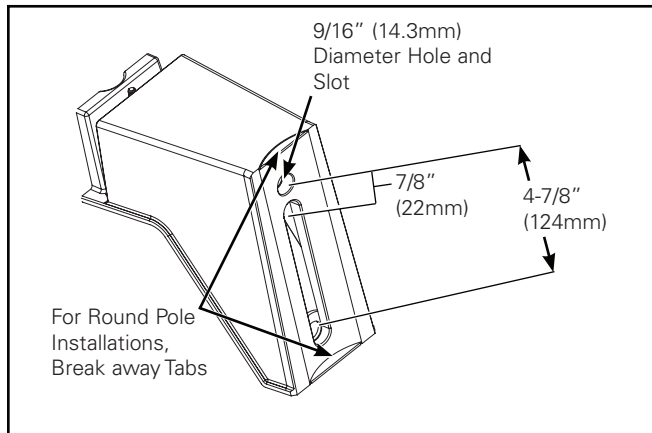
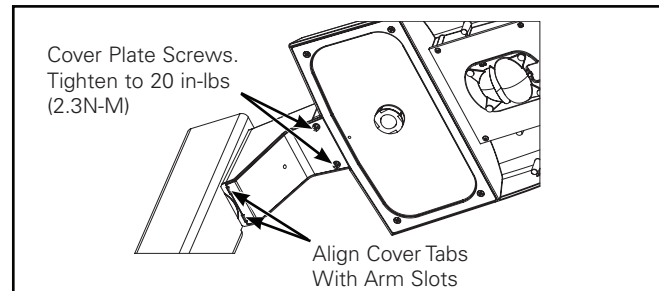

Figure 1.
Figure 5.
### Pole Mount Arm (Figure 1. - Figure 5.)
1. Pole mounting arm is designed for a square or round pole. Round pole installation will require the mounting arm break away tabs to be removed. Grab break away tab with pliers and break-away the tab. (Figure 1.)
- Note:** Ensure the luminaire supply leads do not get pinched between cover and mounting arm. (Figure 5.)